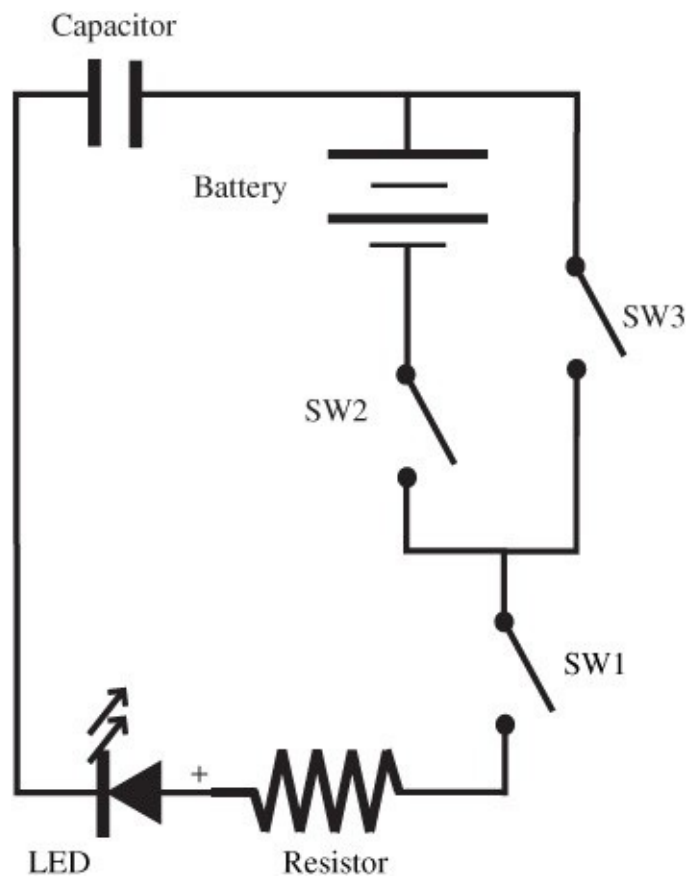

Figure 103-1 *Circuit for studying capacitors.*
1. Set up the circuit shown in Figure 103-1. Pay attention to the positive and